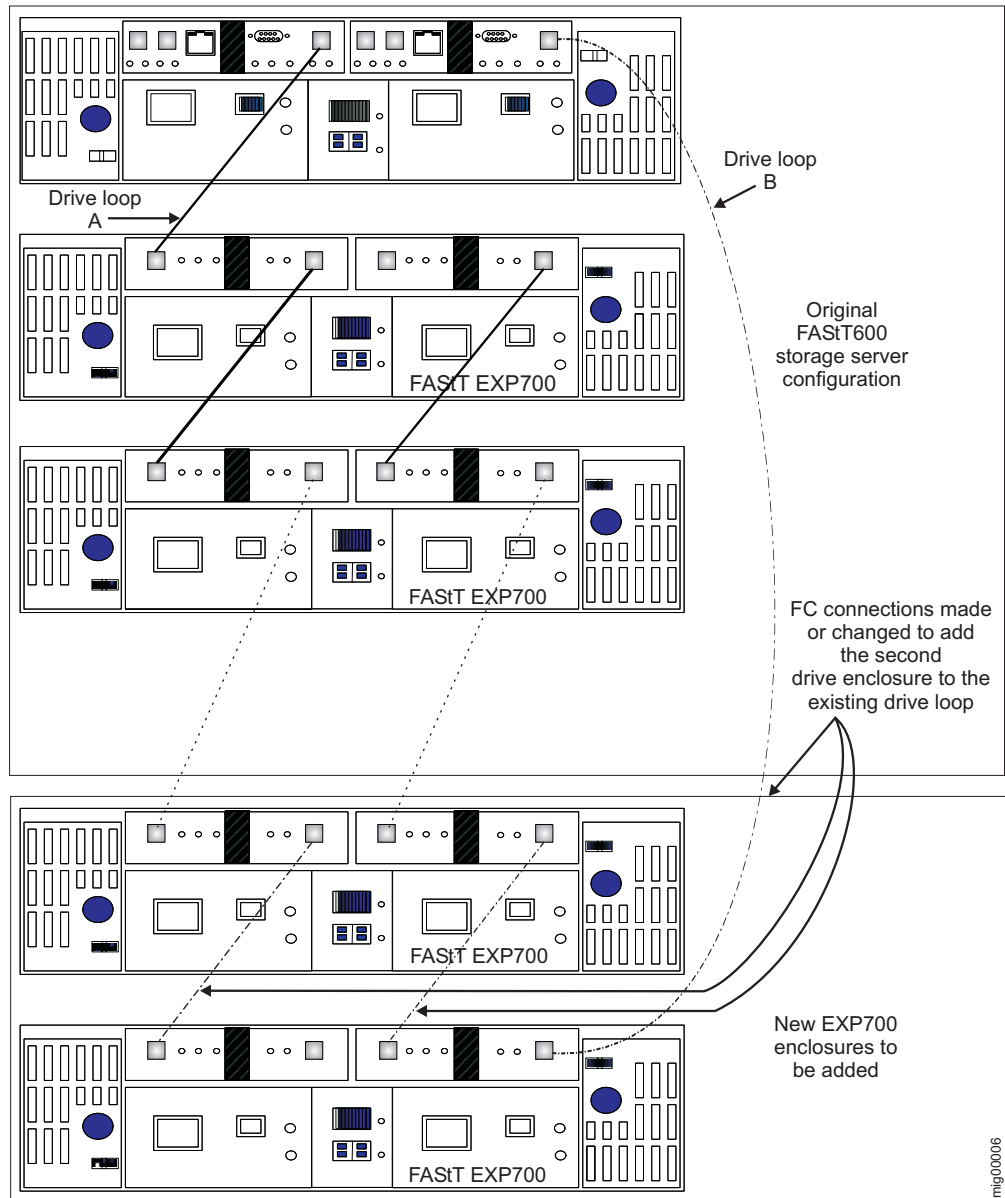

Figure 19. Cabling a second drive enclosure to a functioning drive loop
- \_\_\_ Step 2. To connect additional storage expansion enclosures to the functioning drive loop pair, perform Activity 1: Preliminary activities step 2 on page 38 through step 5 on page 39, Activity 2: Cabling new storage expansion units step 1 on page 39 through step 6 on page 40, and step 1 (immediately preceding this step) for each additional storage expansion enclosure that you intend to add . (See Figure 19 on page 45.) When you have completed adding enclosures, proceed to Activity 5: Re-enabling drive migration settings step1 on page 46 to re-enable the drive migration settings.